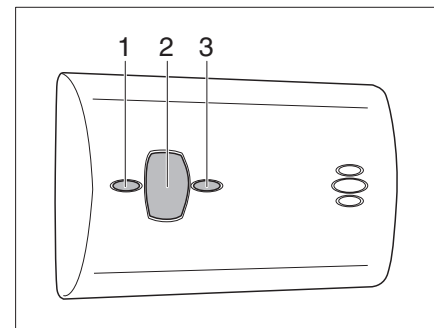

Fig. 123 Carbon Monoxide Alarm
► Press the Test/Reset button (Fig. 123,2).
The red alarm LED (Fig. 123,1) flashes in sync with the tones.
The red alarm LED (Fig. 123,1) flashes every 60 sec and an alarm tone chirps in sync.